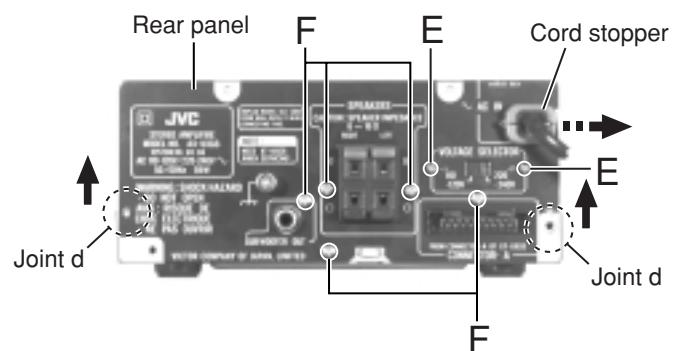

Fig. 9
■ Removing the rear panel and the voltage selector (See Fig.9)
- Remove the cord stopper and the voltage selector as shown in Fig.9.